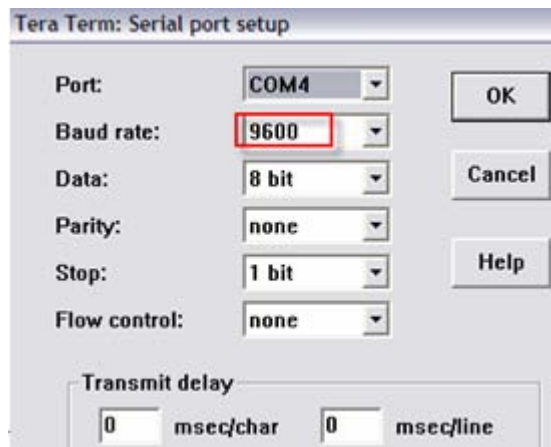

Fig 15. Terminal program set-up
12. Demo 1 uses the terminal program and the settings for the serial port are shown in Fig 15.